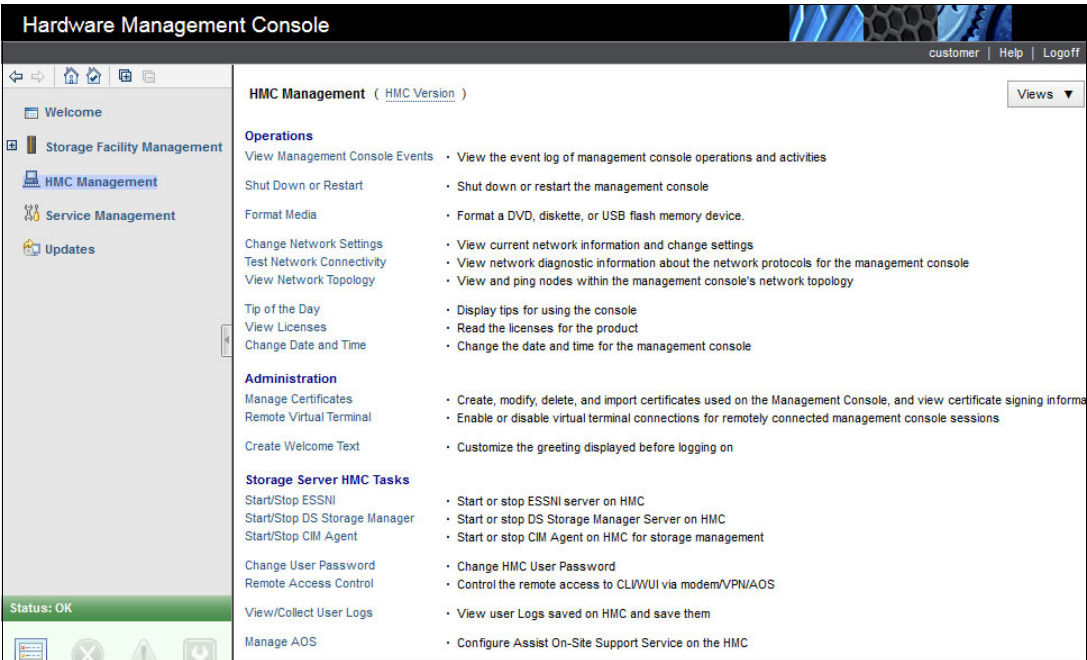

Figure 8-10 Web UI HMC Management window
2. In the HMC Management window, select **Change Network Settings**, as shown in Figure 8-10.